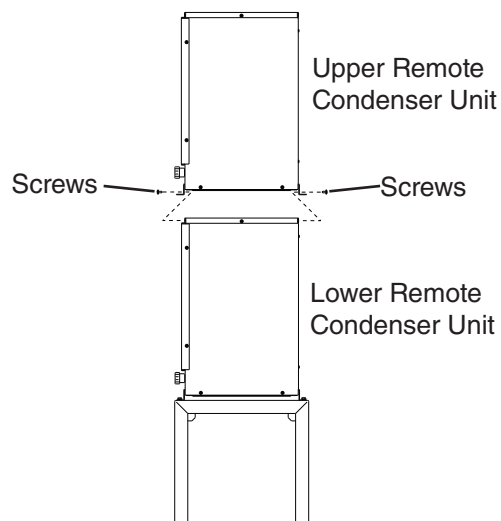

Fig. 12
- 2) Place the upper remote condenser unit on top of the lower. See Fig. 12.